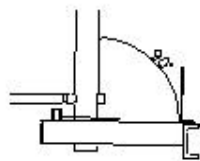

Figure 38
4. Position the drive base so that it remains as vertically in line as possible with the down tube (Figure 38). The tube can be placed at an angle of up to $< 0.5m$. At the 8 m. height of the transmission, take into account the necessary angle, incline also the base of the control unit to an angle of 90° . Attach the OPEN/SHUT sticker.